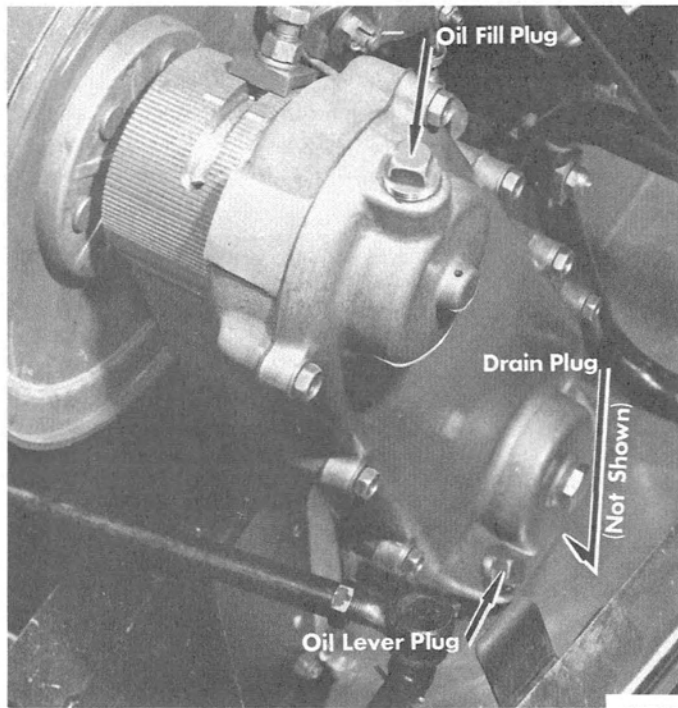

Figure 3. Chaincase Assembly
1. Remove drain plug from bottom of chaincase (Figure 3) and drain all lubricant, then remove chaincase cover.